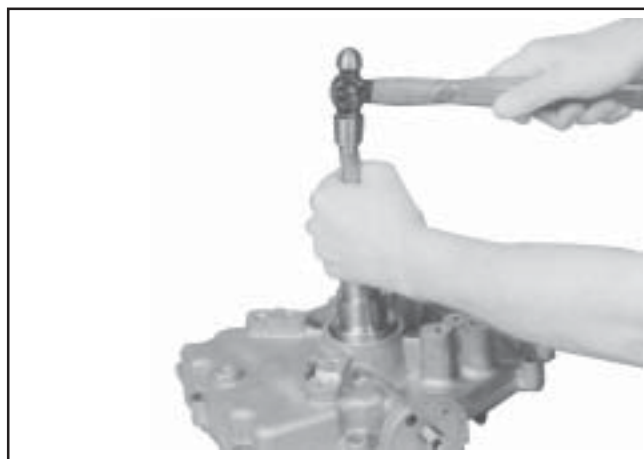

Figure 11-15. Installing Oil Seal in Oil Pan.
3. Drive the oil seal into the oil pan using a seal driver. Make sure the oil seal is installed straight and true in the bore, to the depth shown in Figures 11-15 and 11-16.